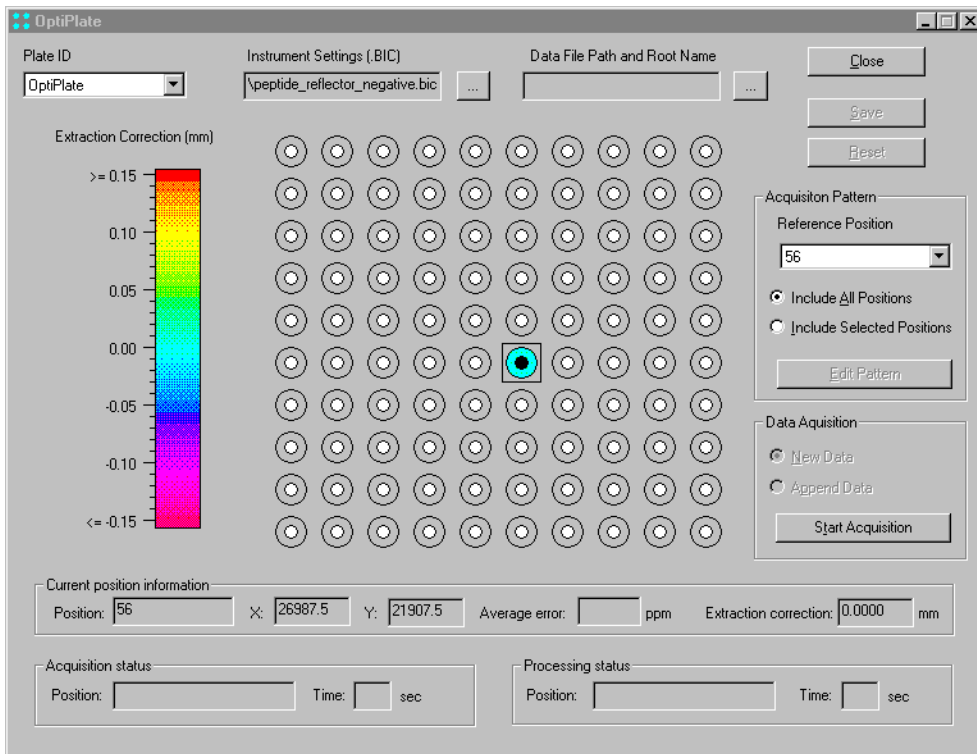

Figure 2-27 OptiPlate Dialog Box
1. In the Instrument Control Panel, select **OptiPlate** from the Tools menu to display the OptiPlate dialog box (Figure 2-27 on page 2-64).